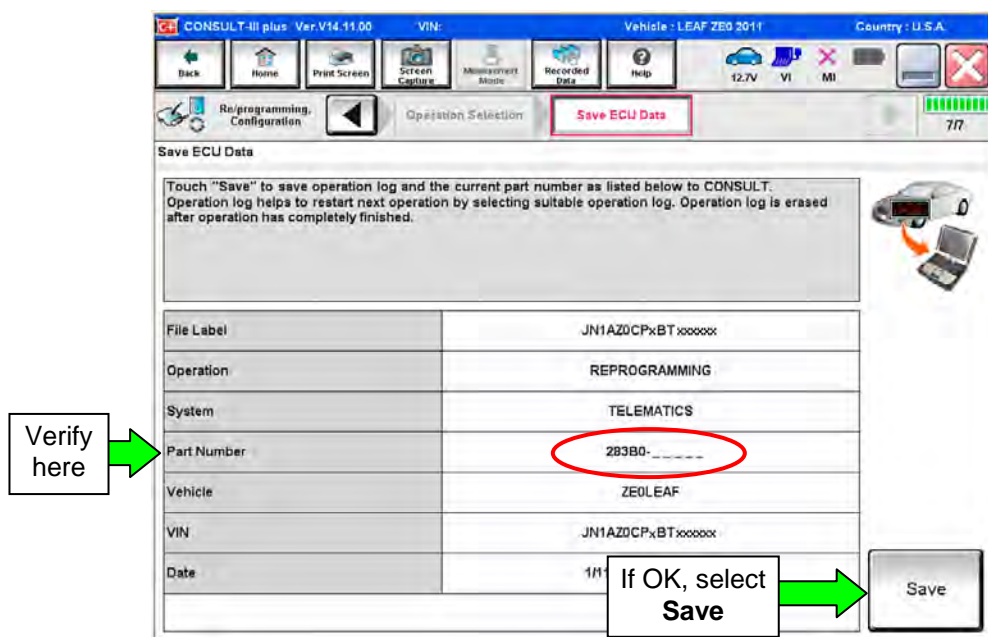

Figure 25
29. Write down the **Part Number** on the vehicle's repair order (see Figure 25) and confirm if it matches one of the part numbers in Table "B" below.